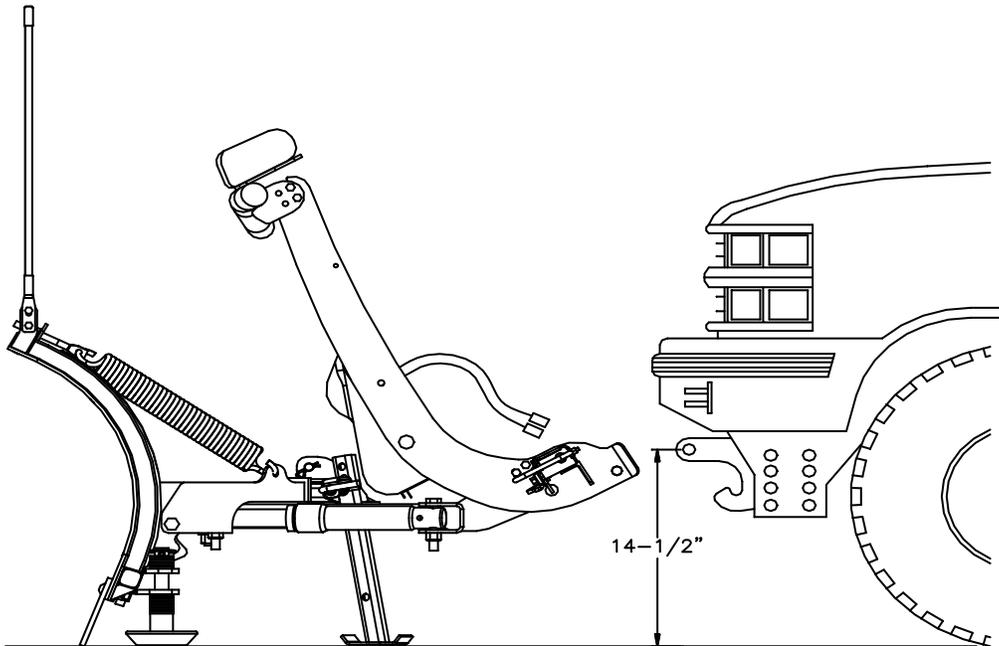

Figure 2
1. Begin by removing the front skid plate (if applicable). There should be (4) bolts connecting the front skid plate to the vehicle. Next, remove the rear skid plate (if applicable). There should be (2) bolts connecting the rear skid plate to the frame. These parts will not be reinstalled for this application but should be retained incase the plow undercarriage is ever removed.
2. Remove the (2) bolts holding each front skid plate bracket to the frame (if applicable). These will be the same bolts connecting the tow hook to the frame. Once the skid plate brackets are removed, reinstall the tow hooks with the OEM hardware. Again, the front skid plate brackets will not be reinstalled but should be retained incase the plow undercarriage is ever removed.
3. Remove the (2) bolts connecting the bumper bracket to the driver side frame rail. DO NOT REMOVE THE BUMPER. Drill out the (2) holes in the frame wall and bumper bracket to 9/16" diameter. Place Driver Side Support Plate (62B) over bumper bracket and attach to frame using two 1/2"-13 x 2" Bolt Bars (101), two 1/2" Split Lock Washers (C), and two 1/2"-13 Regular Nuts (D).
4. With Driver Side Support Plate (62B) in position, drill (1) 9/16" diameter hole in the bottom of the driver side frame rail. Install one 1/2"-13 x 1-1/2" Bolt Bar (102), 1/2" Split Lock Washer (C), and 1/2"-13 Regular Nut (D). DO NOT TIGHTEN HARDWARE.
6. Install Push Beam Assembly (62) between Support Plates (62A & 62B) using eight 1/2"-13 X 1-1/2" Hex Head Bolts (A) and eight 1/2"-13 Lock Nuts (B). For Sport Duty Plow applications, the center of the receiver hole in Push Beam Assembly (62) should be 14-1/2" from the ground (refer to Figure 2). Leave hardware finger tight.
7. Assemble Angle Bracket (75) to the back of Push Beam Assembly (62) using four 1/2"-13 X 1-1/2" Hex Head Bolts (A) and four 1/2"-13 Lock Nuts (B). DO NOT TIGHTEN HARDWARE.
8. Drill out (2) holes in the front cross member to 9/16" diameter for the two rear holes in Angle Bracket (75). Install two 1/2-13 x 1-1/2" Bolt Bars (102), 1/2" Split Lock Washers (C), and 1/2"-13 Regular Nuts (D).